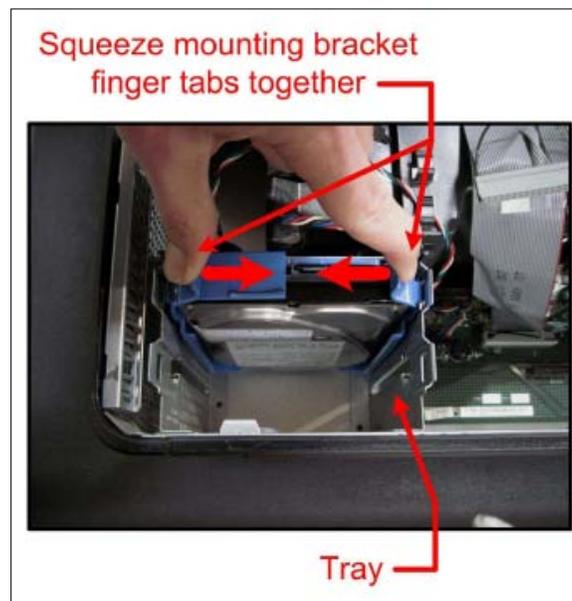

Figure 152: Removing Hard Drive from Tray Slot
- b. Unlatch the drive from its tray slot, by squeezing the two finger tabs of the blue mounting bracket together while gently pulling upward. The hard drive assembly will slide out easily. See Figure 152 below.